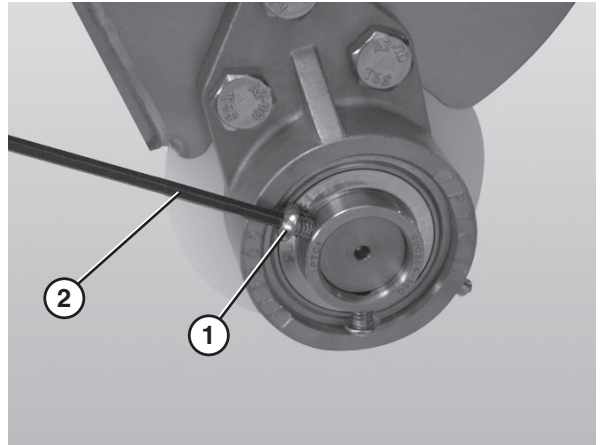

Figure 72
5. Tighten the 3 hole flange with bearing fasteners (**Figure 72, item 1**) using a hex wrench (**Figure 72, item 2**).